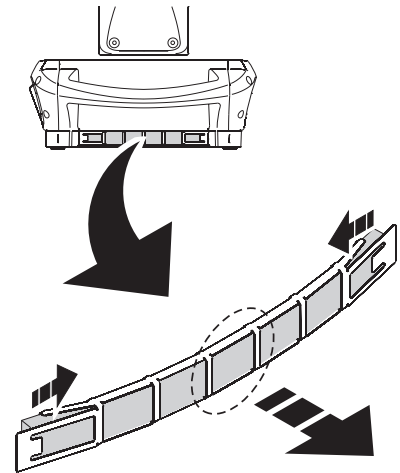

Figure 18: Base air filters
3. See Figure 18. On each side of the base, pinch the air filter holders in from the sides as illustrated, then pull the center of the holders outwards to unclip and remove them.